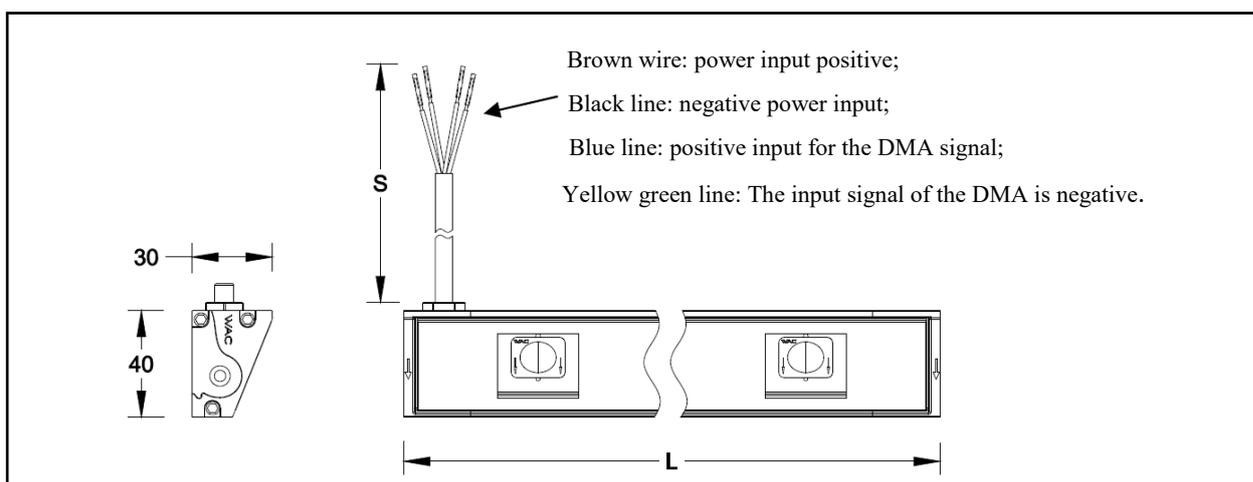

Fig.1
1. The installation method of this line lamp is horizontal installation, with the arrow direction facing downwards. The lamp is fixed to the installation surface through stainless steel brackets at both ends, as shown in Figures 1 and 2.
2. Power cord led out from the lamp: The constant current lamp and the constant voltage 24V/DC ON-OFF lamp are 2-core wires - the brown wire represents the positive input of the power supply, and the blue wire represents the negative input of the power supply; The constant voltage 24V/DC DMX512 dimming lamp is a 4-core wire - the brown wire represents the positive power input, the blue wire represents the negative power input, the black wire represents the positive signal input of the DMA, and the yellow green wire represents the negative signal input of the DMA; The power cord is connected to the power supply through a junction box, and the input end of the power supply is connected to 220/50HZ AC power, as shown in Figures 1 and 3.